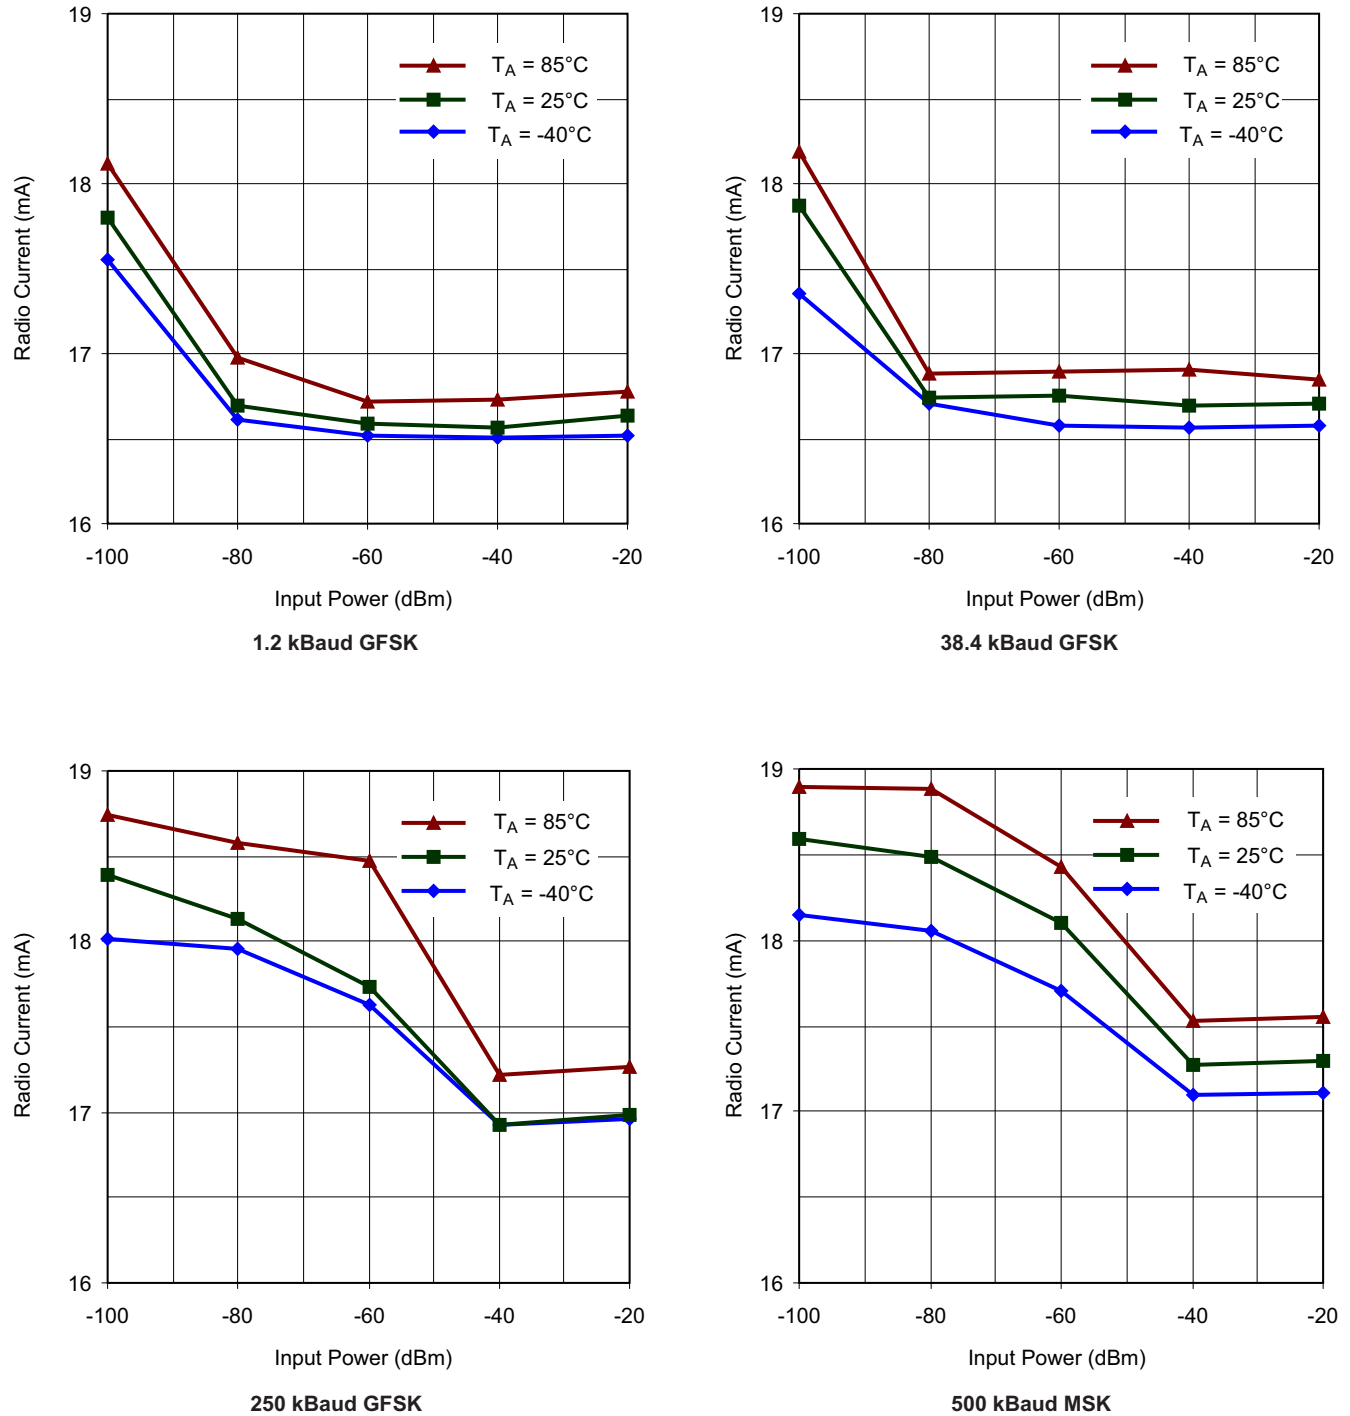

Figure 5-22. Typical RX Current Consumption Over Temperature and Input Power Level, 868 MHz, Sensitivity-Optimized Setting
(1) All measurement results are obtained using the EM430F6137RF900 with BOM according to tested frequency range (see Table 7-1).
(2) Reduced current setting (MDMCFG2.DEM_DCFILT_OFF = 1) gives a slightly lower current consumption at the cost of a reduction in sensitivity. See Section 5.53 through Section 5.56 for additional details on current consumption and sensitivity.
(3) For 868 or 915 MHz, see Figure 5-22 for current consumption with register settings optimized for sensitivity.